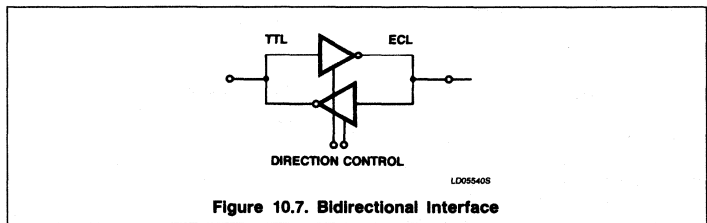

Figure 10.7. Bidirectional Interface
2. Bidirectional interfaces, allowing transmission in both directions, controlled by auxiliary logic signals, to define the direction of transmission and (in some cases) to improve the signal (see Figure 10.7). For example: